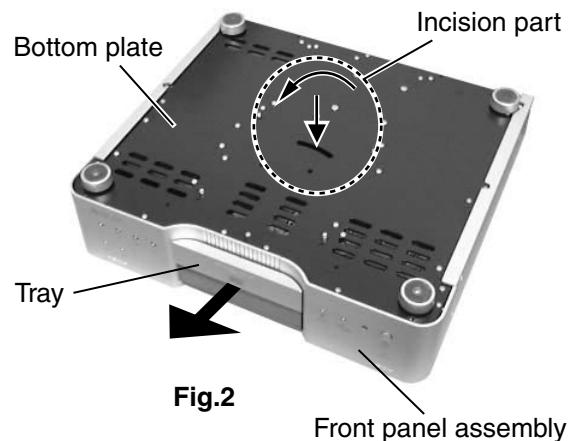

Fig.2
2.A minus driver is inserted in the incision part at the center of the bottom, the bar in the interior of the incision part is moved in the direction of the arrow of Figure 2, and the tray is drawn out forward.